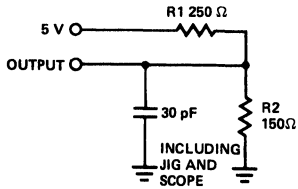

Figure 1a
8. t_{AA}, t_{ACS} and t_{AWE} are tested with C_L = 30 pF as in Figure 1a. Timing is referenced to 1.5V on the inputs and outputs.